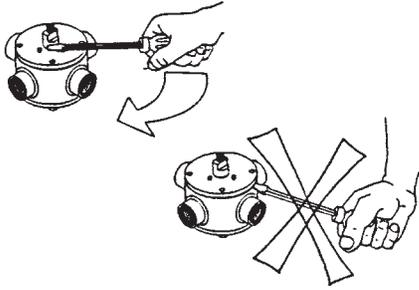

Figure 5.9C
2. Remove the four hex head bolts and the cap from the body. The cap should be rotated until free; do not pry. Inspect cap for wear and damage (see figure 5.9C).